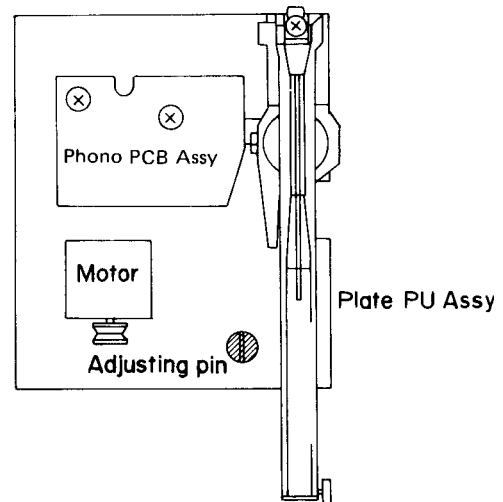

Figure 28
- (1) Remove the cabinet top according to "1. Removal of Cabinet Top" (page 4).
- (2) Press the POWER button so that the unit will be switched on. Place the turntable platter, install the belt to the pulley and place the mat.
- (3) Use the first face of NEC test record ES-1008 for this adjustment. Press the START button; turntable platter starts rotation, the tonearm will move and descend onto a record.
- (4) Turn the adjusting pin described in Figure 28 so that the stylus set-down position will be counted between 15 and 17 points.
- (5) Using the second face of the test record ES-1008 make sure that the automatic return position will be counted between 19 and 22 points.